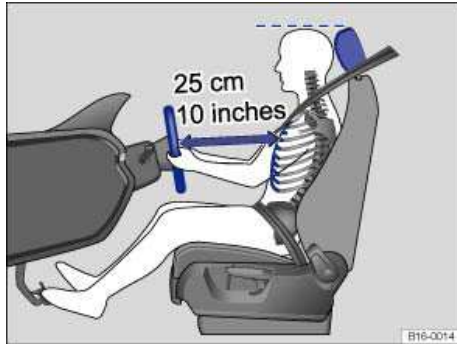
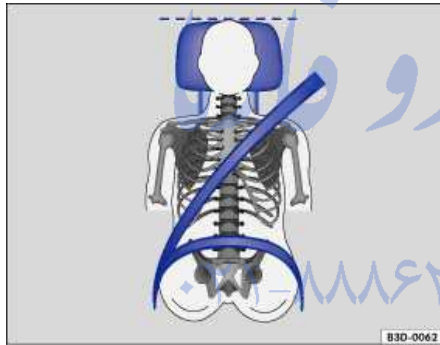

Fig. 35 The driver should never sit closer than 10 inches (25 cm) of the steering wheel.
Fig. 36 Proper safety belt positioning and head restraint adjustment.
- Adjust head restraints so that the upper edge of the head restraint is at least at eye level or higher. Position the back of your head as close as possible to the head restraint ⇒ fig. 35 and ⇒ fig. 36.
- Adjust the steering wheel so that there are at least 10 inches (25 cm) between the steering wheel and your breast bone ⇒ fig. 35. When adjusting the proper distance to the steering wheel, grasp the top of the steering wheel with your elbows slightly bent.